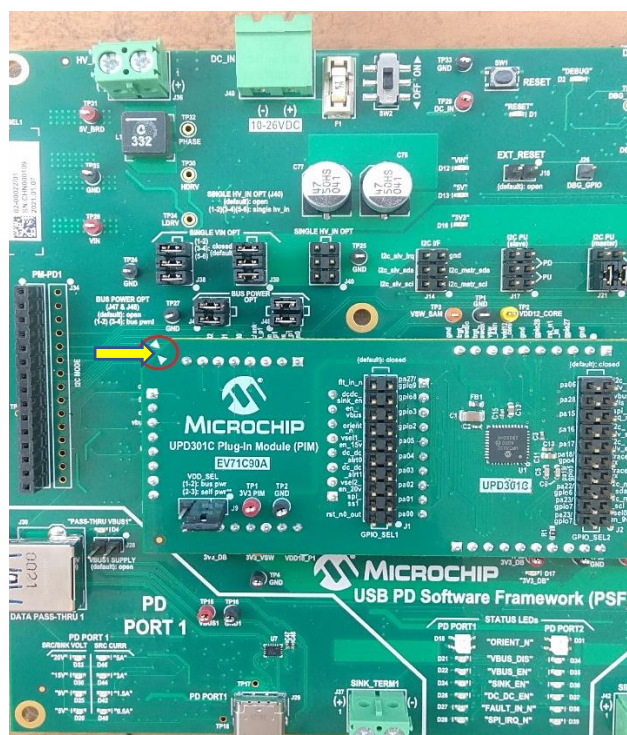

Figure 5.1
1. Connect the PIM according to the silk label marking on PSF EVB as shown in the Figure 5.1